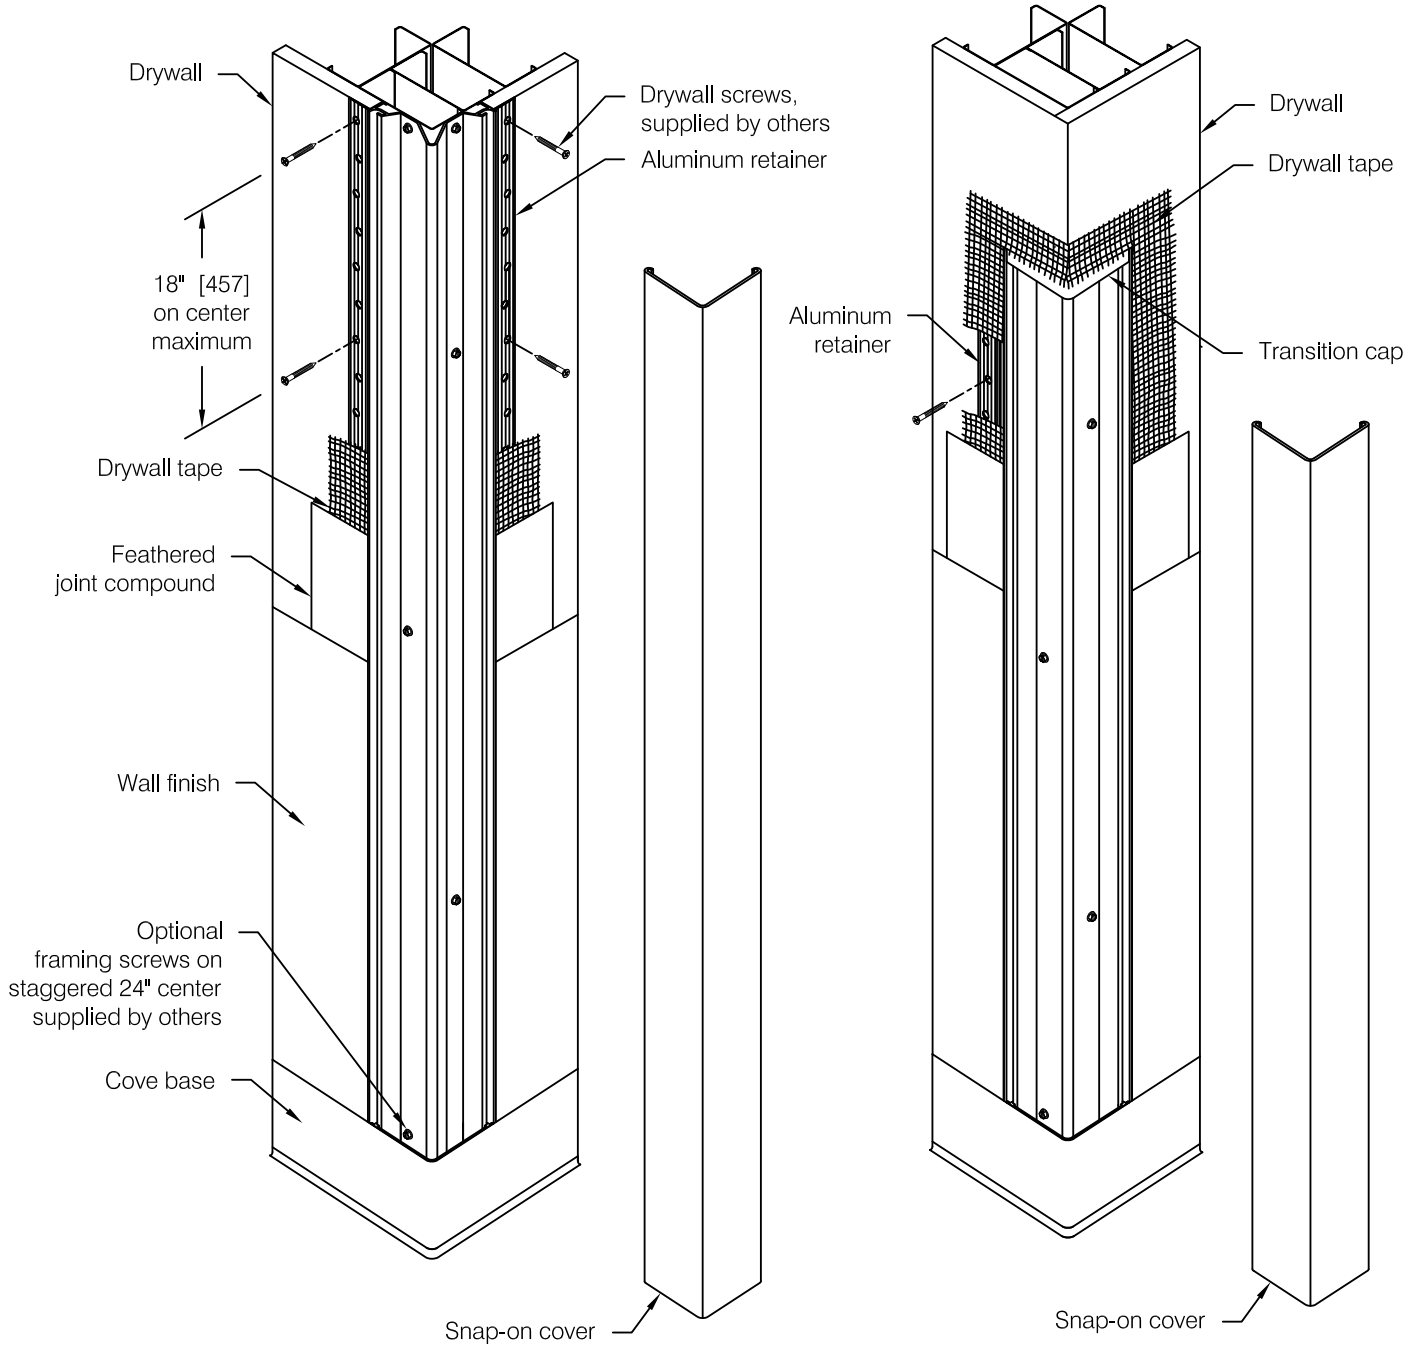
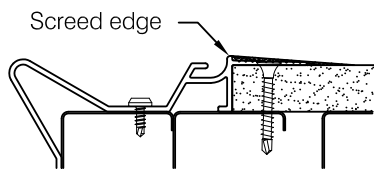

fig 1
fig 3
Step 1 This series of corner guards is available with full height (**fig. 1**) and partial height (**fig. 2**) installations. Either application is available with an optional cove base insert for use with customer supplied flexible cove base. Partial height installations require an aluminum transition cap which provides a surface for drywall tape at the finished height of the corner guard.
Step 4 Mount retainer with mechanical fasteners as shown in **fig. 1** and **fig. 2**. The outermost edge of the retainer is perforated for use with bugle head drywall screws. Install screws at 18 inches (457mm) maximum centerline spacing. Use caution to avoid damage to the retainer from over tightening.
Fasteners listed are for installation with standard single or double layer 5/8 inch (16mm) drywall. Fasteners 1-1/4 inch in length are suitable for single layer applications. Additional fasteners closer to the corner may be used in conjunction with standard edge fastening to provide added stability to the installation (see **fig. 1** and **fig. 2** for location and spacing). These should be drill point bugle head or pan head style fasteners.
Step 5 Apply 2 inches (51mm) joint tape to cover perforated retainer edge and to span joint between retainer and drywall, see **fig. 1**. Apply joint tape to transition cap on partial height installations, see **fig. 2**. Feather with joint compound using standard industry practices. The aluminum retainer provides a screed edge for joint compound, see **fig. 3**.